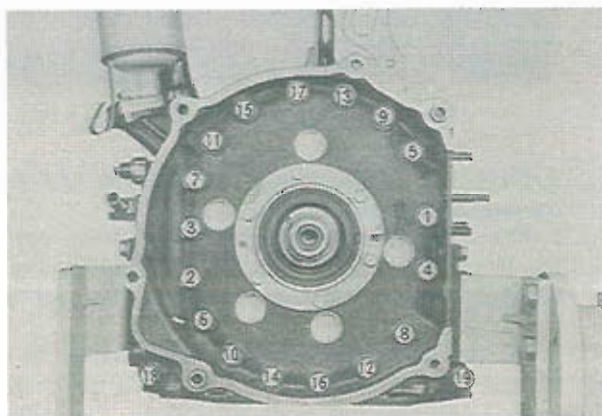

Fig. 1-93 Tightening order
2. Turn the engine on the work stand so that the top of the engine is up, and tighten the bolts gradually in the order shown in Fig. 1-93. The specified torque is 3.0 m-kG (22 ft-lb). Do not tighten the tension bolts at one time.